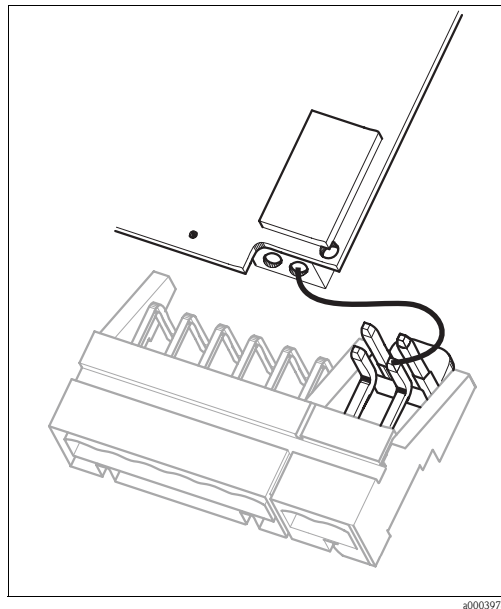

Fig. 29: pH input module in the housing cover with cable (red) for connecting glass electrodes
5. On the right-hand side of the housing cover, disconnect the red cable to the pH input at both ends (see Fig. 29).